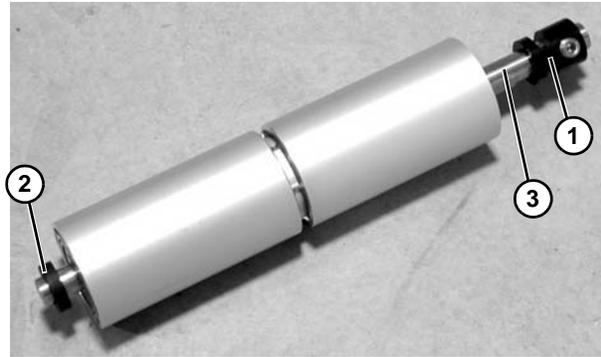

Figure 68
8. Remove the tension pulley locking collar (Figure 68, item 1), spacer (Figure 68, item 2) and pulley shaft (Figure 68, item 3) from the roller pulley shaft assembly.